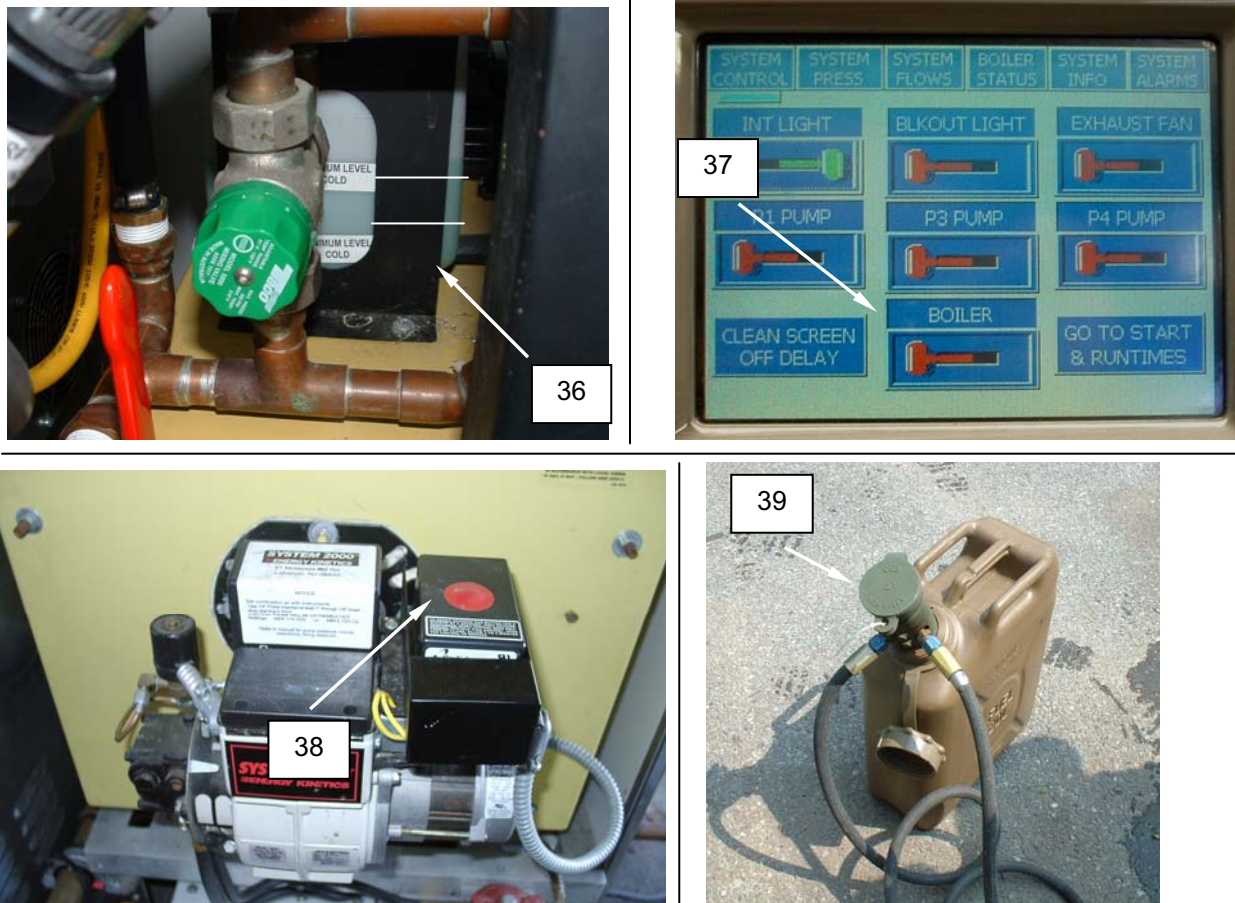

Figure 20. Operate the Boiler.
1. Ensure the boiler glycol level is above the minimum level and does not exceed the maximum levels. Add a 50/50 mix of ethylene glycol as necessary into the reservoir (**Figure 20, Item 36**).
3. Switch the boiler (**Figure 20, Item 37**) ON at the PLC. You should hear the boiler come on immediately.
4. Monitor the boiler for at least five minutes to ensure proper operation. If the boiler shuts down within this amount of time, press the reset button (**Figure 20, Item 38**) on the controller for at least three seconds and continue to monitor for at least five minutes.
5. If the boiler shuts down again, shut the boiler off at the PLC (**Figure 20, Item 37**) and notify unit maintenance. Do not attempt a second restart.
6. Monitor the fuel supply during CBL operation. To replenish, shut down the boiler at the PLC (Figure 20, Item 37), remove the fuel can adapter (Figure 20, Item 39), and refill the can (Figure 20, Item 40).